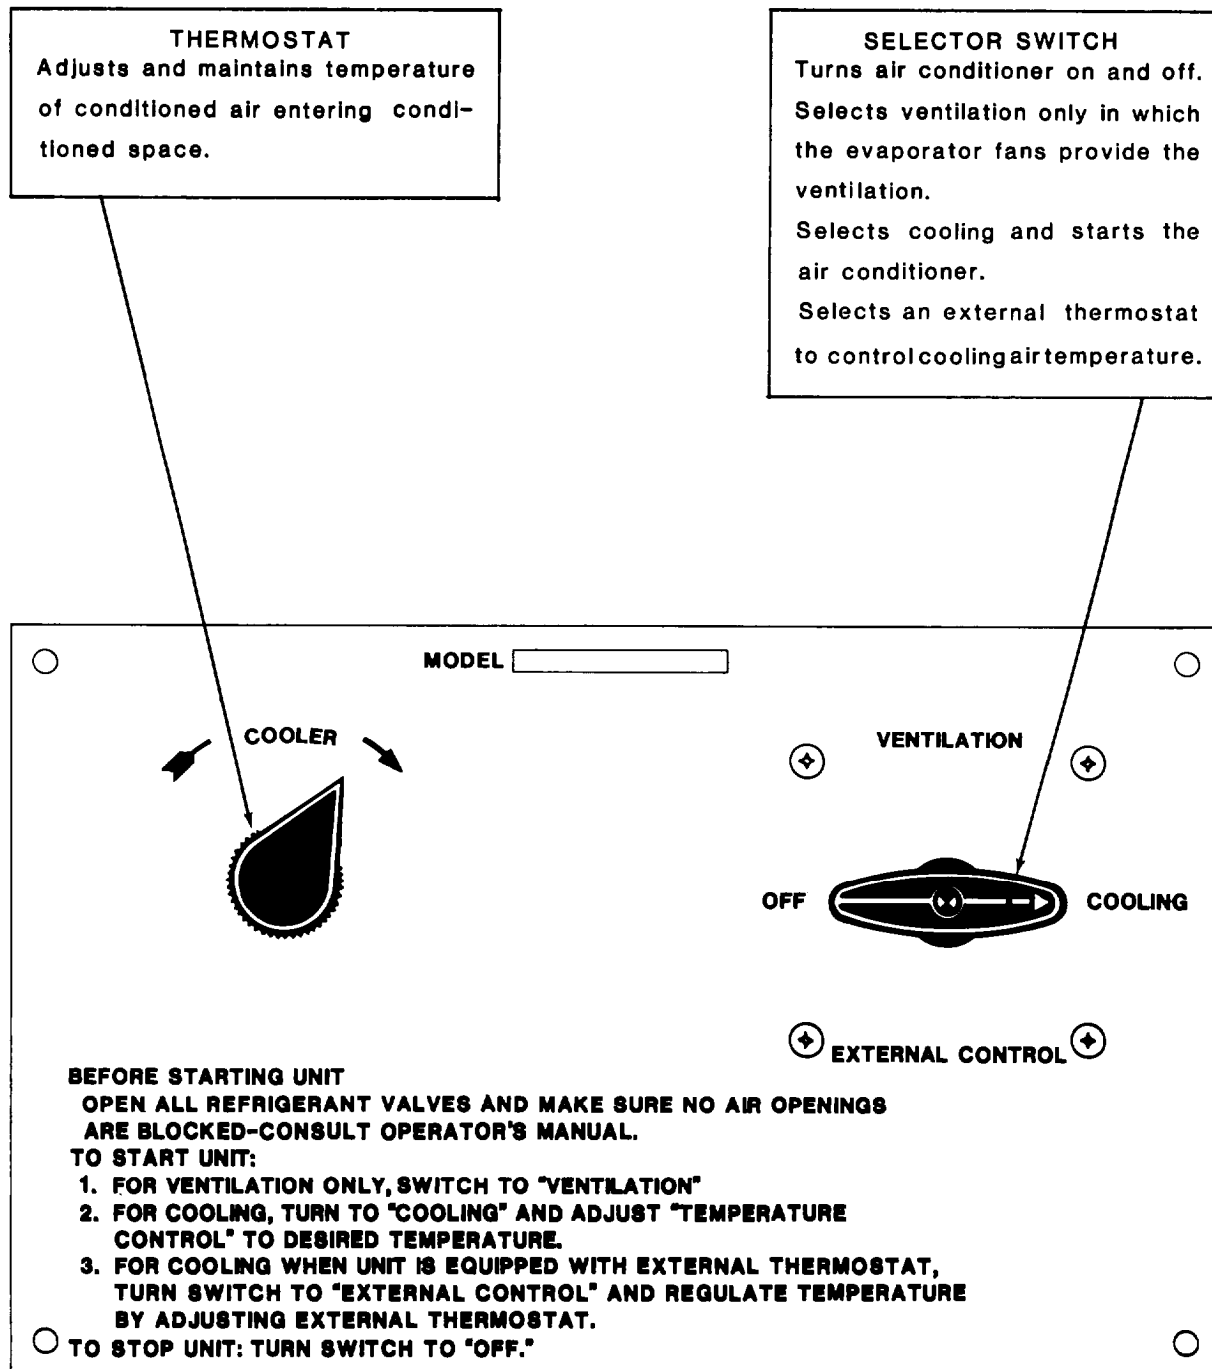

Figure 2-1. Operator's controls and Indicators TS5-4120-364-13/2-1
The description and use of the operator's controls and indicators is shown in figure 2-1.
(1) Refer to paragraph 2-2 and perform the daily preventive maintenance checks and services.
(2) Refer to figure 2-1 and start the air conditioner.
(3) The coolest setting of the thermostat should correspond to a temperature of approximately 60°F (18°C) in the conditioned air space. After several hours of operation at this setting, the thermostat may be set back from the extreme cooling position to attain whatever temperature above 60°F (18°C) is desired in the conditioned air space.
(4) For operation when the unit is equipped with an external thermostat, turn the selector switch to "EXTERNAL CONTROL" and the temperature will be controlled by the setting of the external thermostate.
(5) For ventilation only, turn the selector switch to "VENTILATION". In this mode, only the evaporator fans will operate.
b. Stopping. Refer to figure 2-1 and turn the selector switch to "OFF".